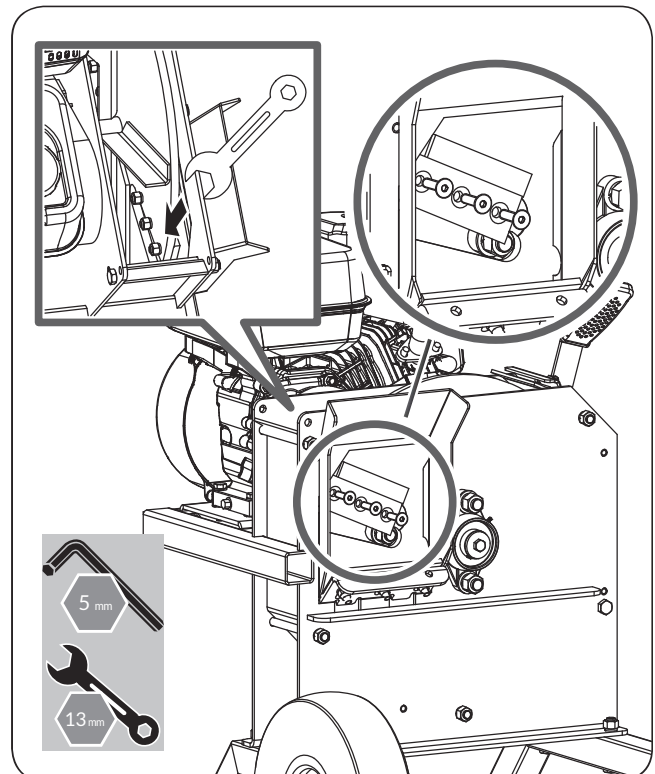

Figure 16
6. Remove the bolts, nuts that fix the blade. (See **Figure 16**)